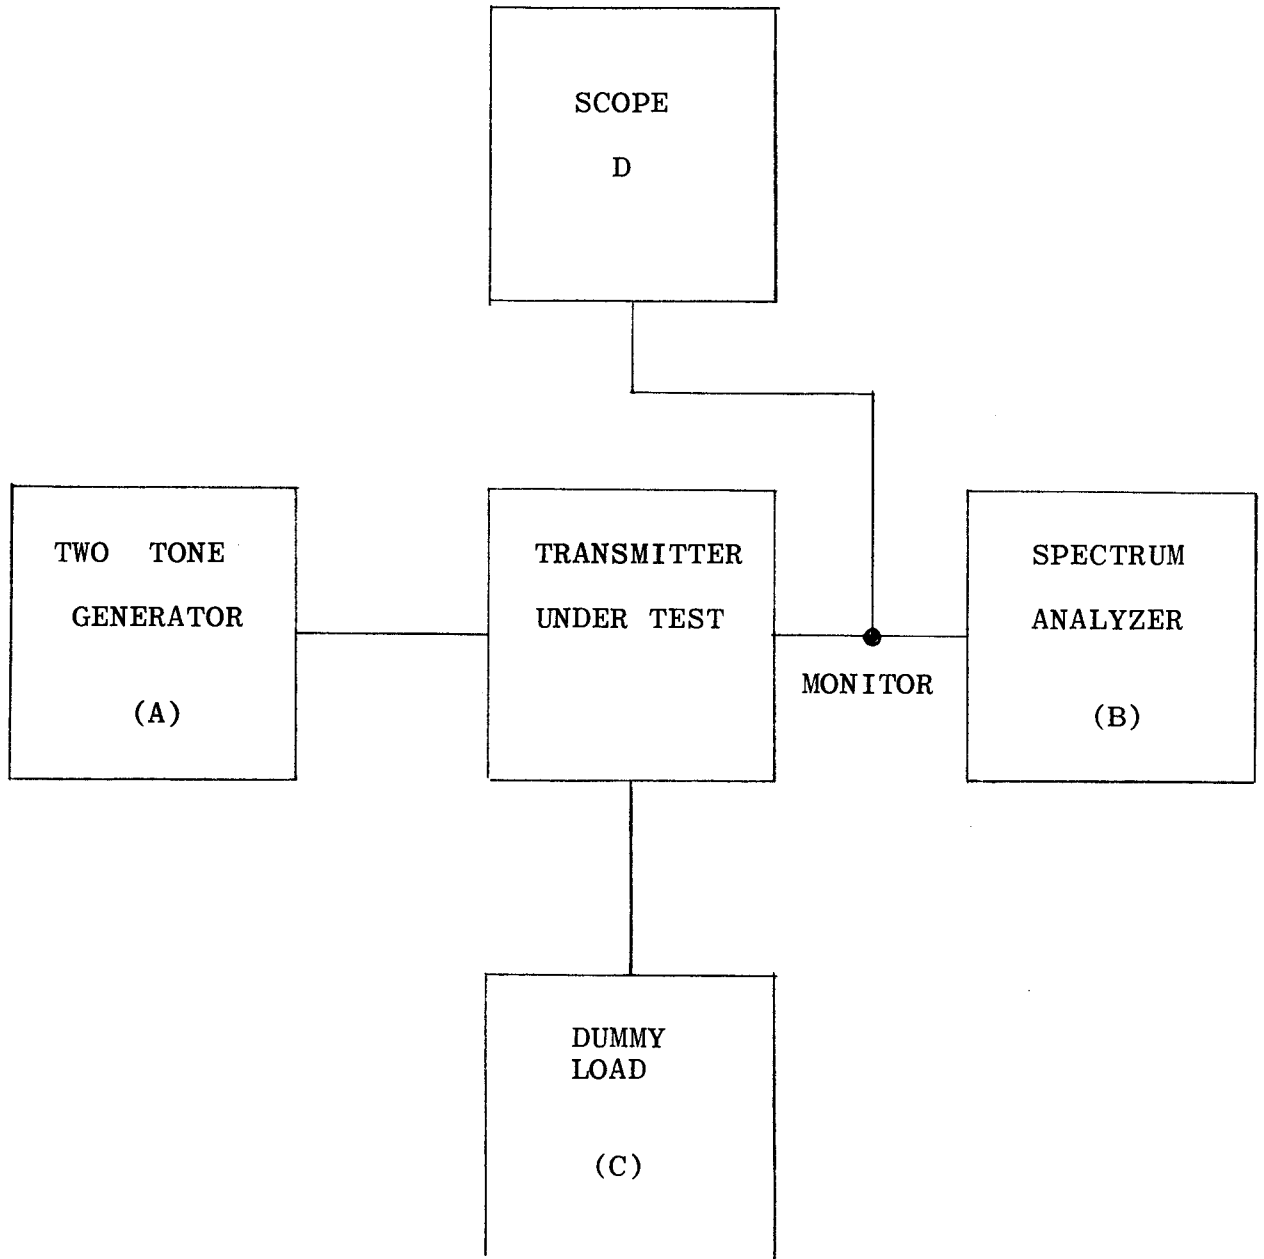

FIGURE 2.3
- a. Connect the equipment as indicated in Figure 2.3.